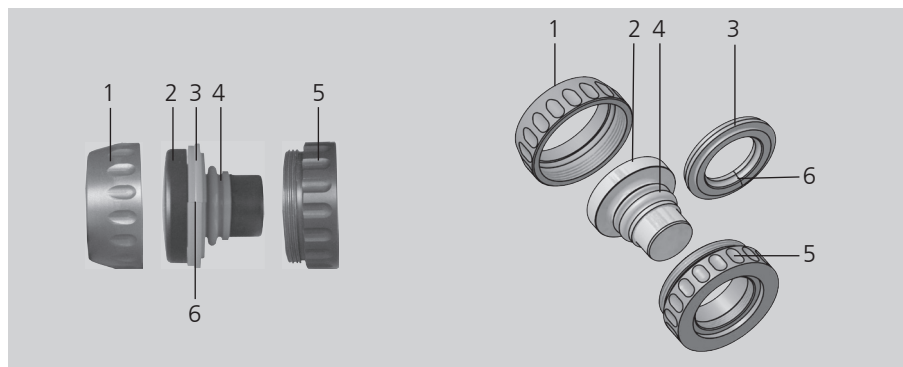
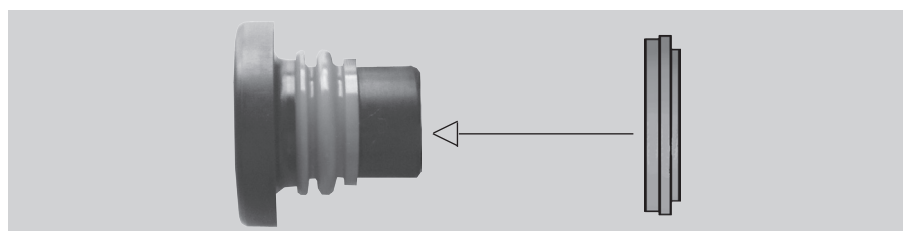

Fig. 2-3 Transmitter V40
Fig. 2-4 Mount the sealing ring
- Unscrew the transmitter screw cap (Fig. 2-3/1 and Fig. 2-3/5), and pull the transmitter out.
- Remove the sealing ring (Fig. 2-3/3) by pressing it apart at the cut-through point.
- To clean, press the spring element (Fig. 2-3/4) together slightly and remove the residues underneath it.
- Make sure that the smooth side of the sealing ring (Fig. 2-3/3) is in contact (Fig. 2-4) with the transmitter head (Fig. 2-3/2).